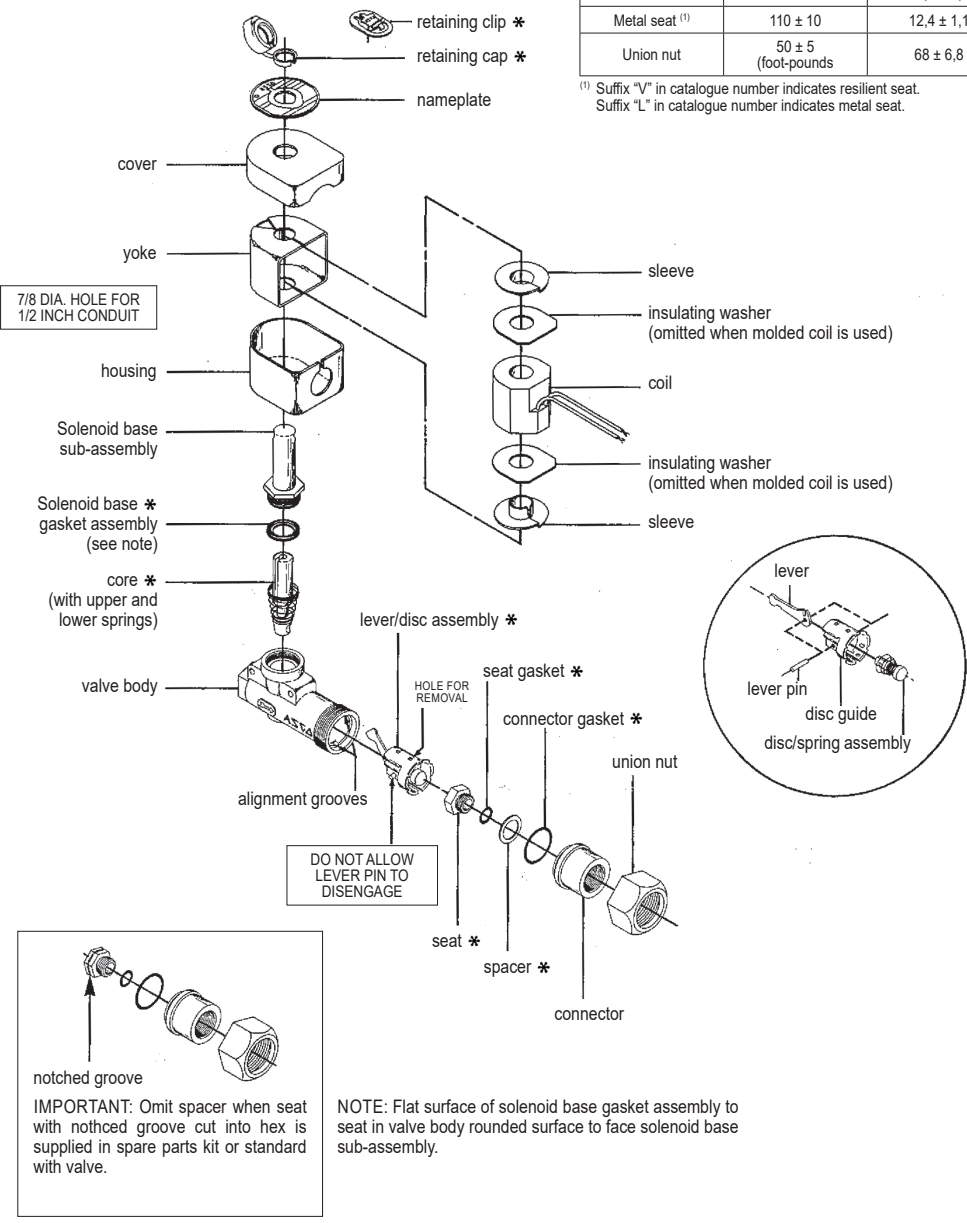

Figure 3. Series 8266 - Normally open construction - General purpose solenoid enclosure shown
3. Unscrew solenoid base sub-assembly and lift core/spring assembly upward. Remove solenoid base gasket assembly. NOTE: At this point, valve construction may be determined. If core assembly has two springs the valve construction is "Normally Closed" as shown in Figure 2. If core assembly has one spring, valve construction is "Normally Open" as shown in Figure 3.
NORMALLY OPEN CONSTRUCTION (Refer to Figure 3.)